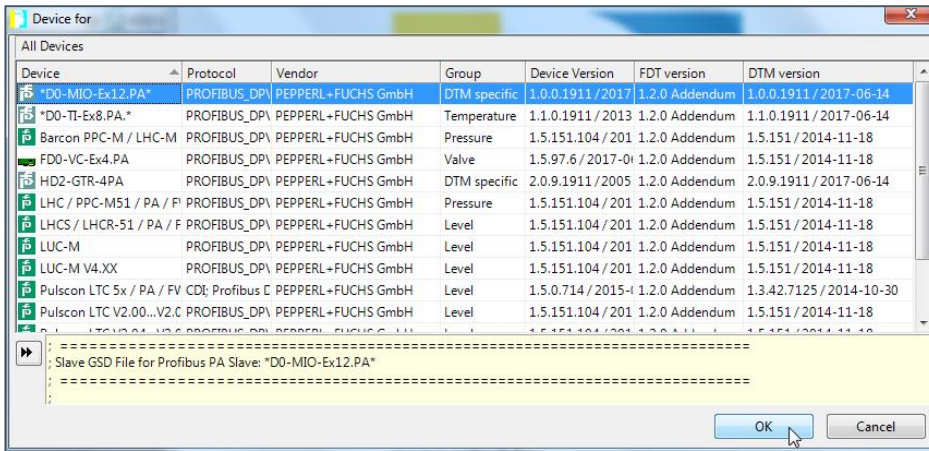

Figure 81: Select the PROFIBUS PA device to use
- 4) Select the PROFIBUS PA devices to use. For the example 2, select Multi-Input/Output Device ***D0-MIO-Ex12.PA*** and click **OK** (see: Figure 81: Select the PROFIBUS PA device to use).